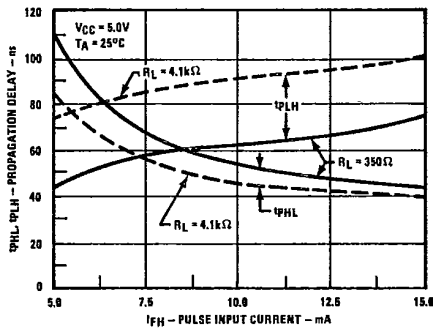

Figure 9. Recommended Printed Circuit Board Layout
**Bypassing.** A ceramic capacitor (.01 to 0.1  $\mu$ F) should be connected from pin 8 to pin 5 (Figure 9) to stabilize the operation of the high gain linear amplifier. Failure to provide the bypassing may impair the switching properties. The total lead length between capacitor and coupler should not exceed 20 mm.
**Enable Input.** No external pull-up required for a logic (1), i.e., can be open circuit.